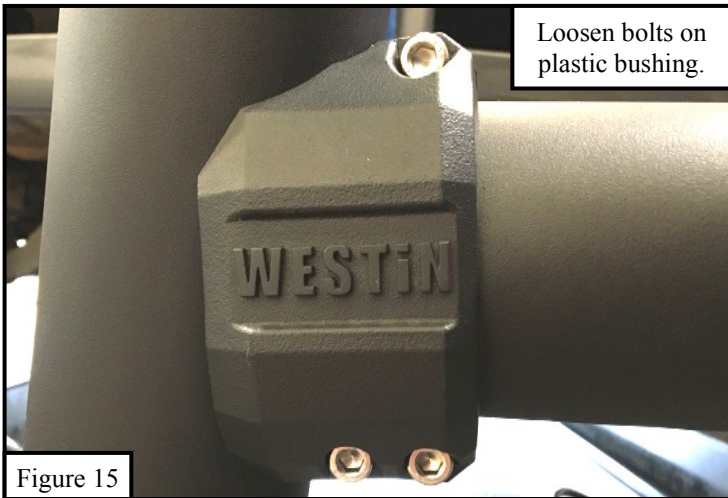
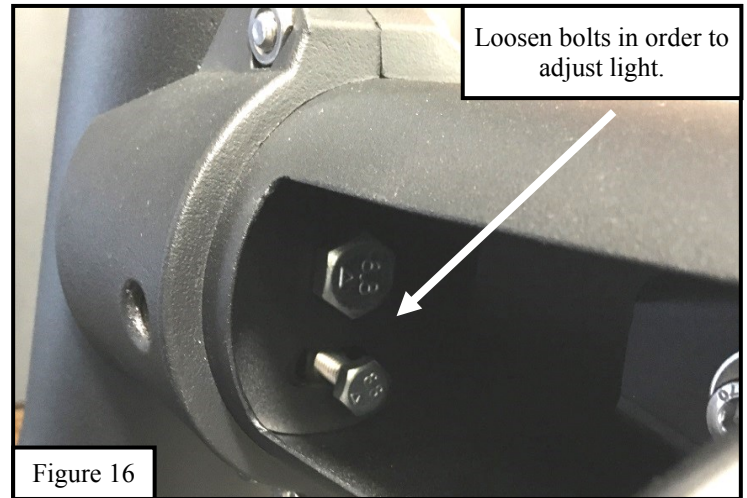

Figure 15
Figure 16
- Adjust the center tube of the contour bull bar assembly so that the light will point straight ahead by first loosening the bolts on the plastic bushings (3 bolts on each bushing). See **Figure 15**. Next, locate the rectangular openings behind the light and loosen the two bolts on each side. Rotate and align the light as needed and then tighten hardware. See **Figure 16**.